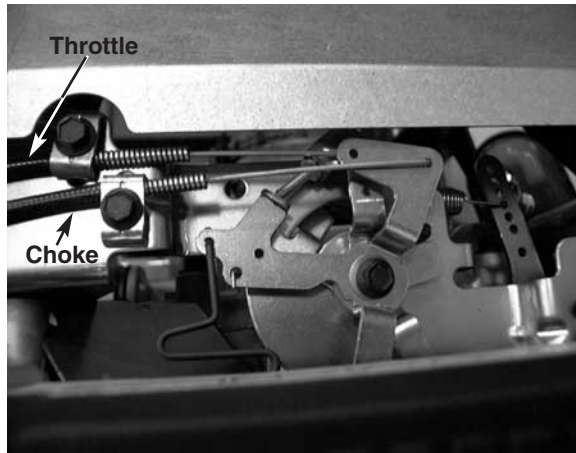

FIGURE 5.
14. Remove both the choke and the throttle cables. See figure 5.